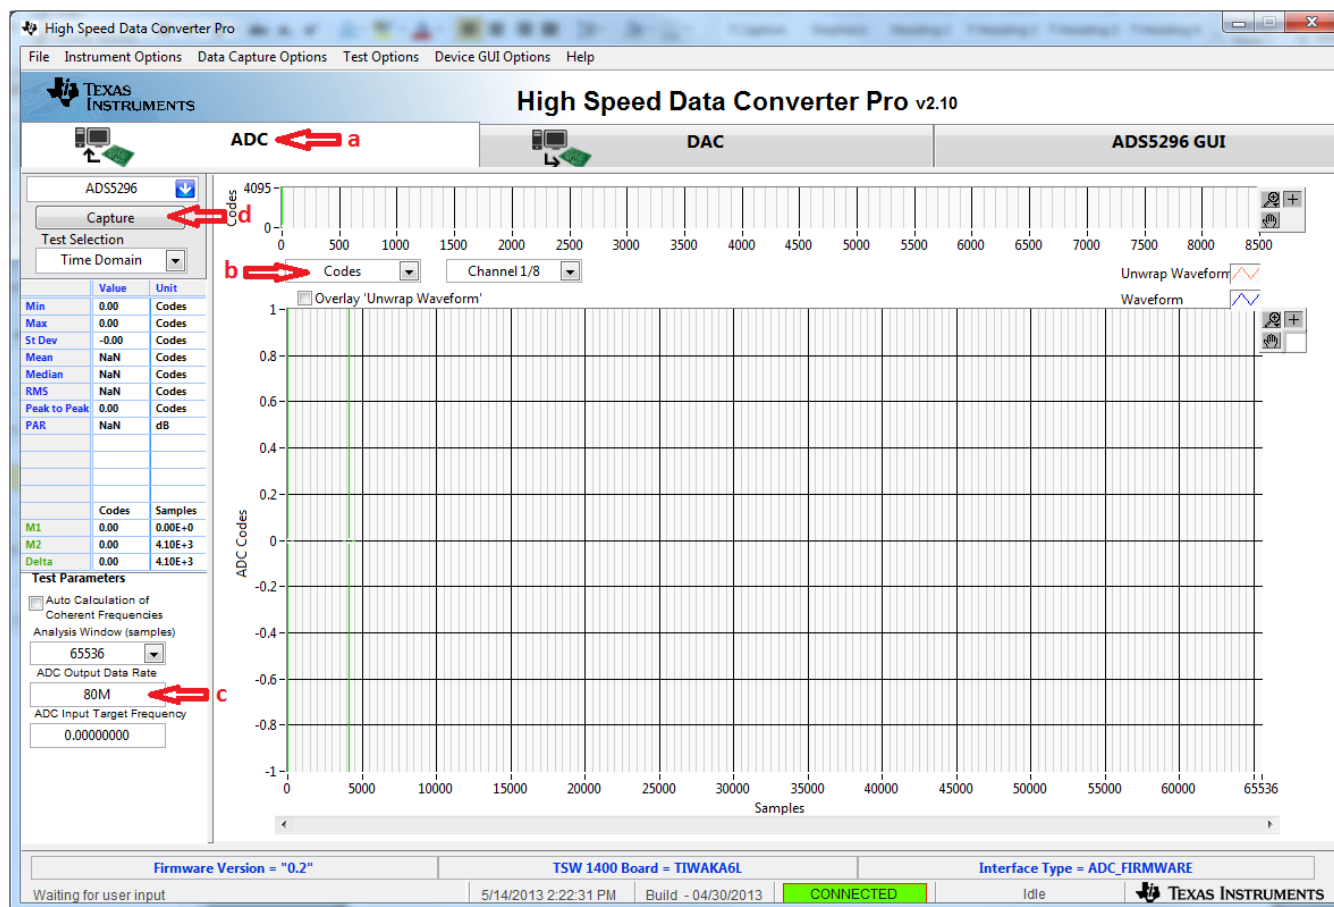

Figure 32. HSDCpro GUI Setup for RAMP Test
2. Perform the following steps highlighted in Figure 32: